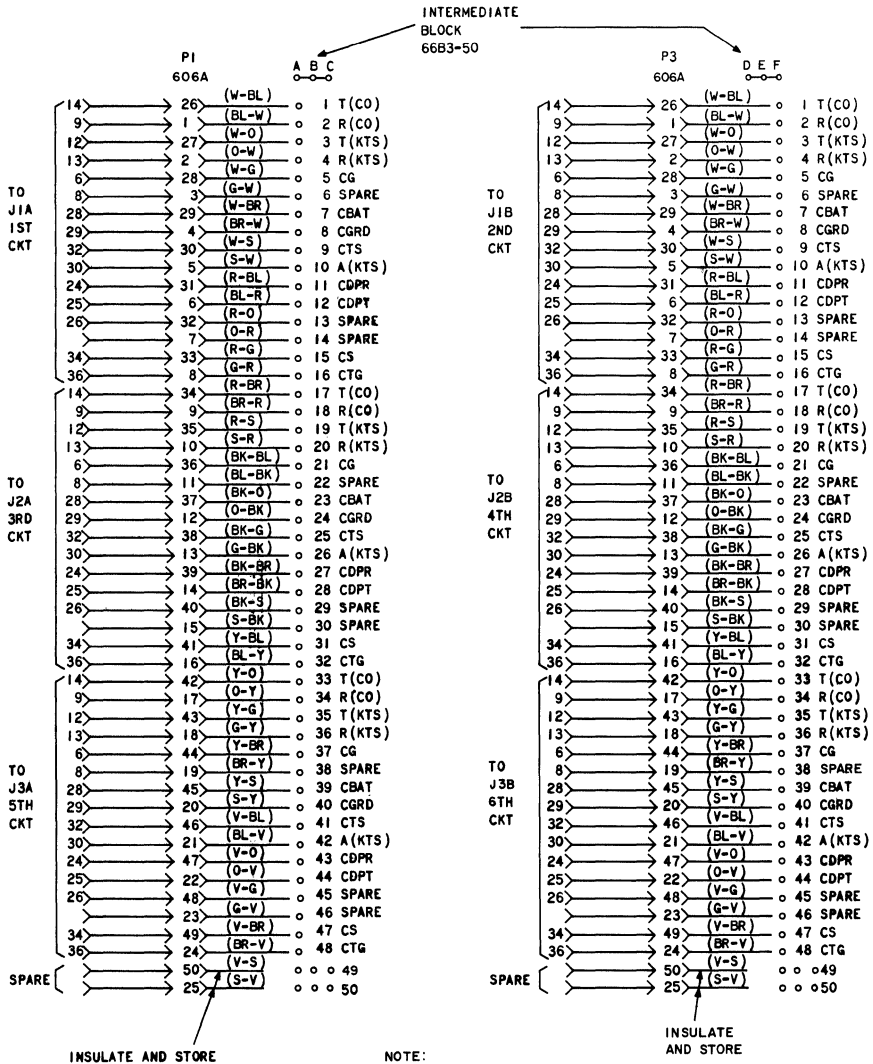

Fig. 8—Connections for Plugs P1 and P3 to Intermediate Block
shown in Fig. 8 and 9. **Do not use B bridging clips or wire straps** with the intermediate block. Terminate the cable from P1 on column A of the block and terminate the cable from P3 on column F (Fig. 8). Stencil lead designations on fanning strip.
* REFER TO FIG. 8 FOR PIN OR TERMINAL NUMBERS.